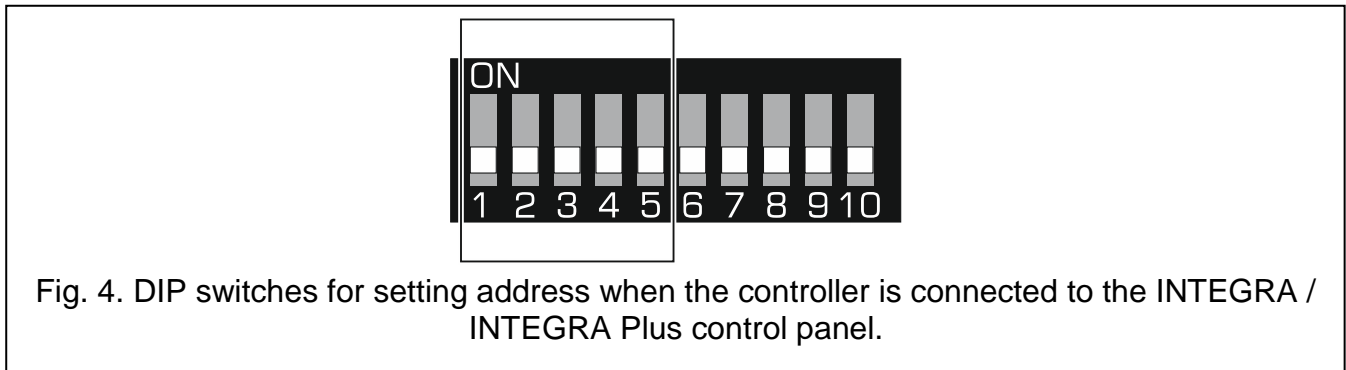

Fig. 4. DIP switches for setting address when the controller is connected to the INTEGRA / INTEGRA Plus control panel.
**Switches 1-5** (Fig. 4) are used to set the address when the controller is connected to the INTEGRA / INTEGRA Plus control panel (in the other operating modes, the settings of switches 1-5 are irrelevant). Numerical value is assigned to each switch. In OFF position, the value is 0. Numerical values assigned to individual switches in ON position are presented in Table 2. The sum of numerical values assigned to switches 1-5 constitutes the address set